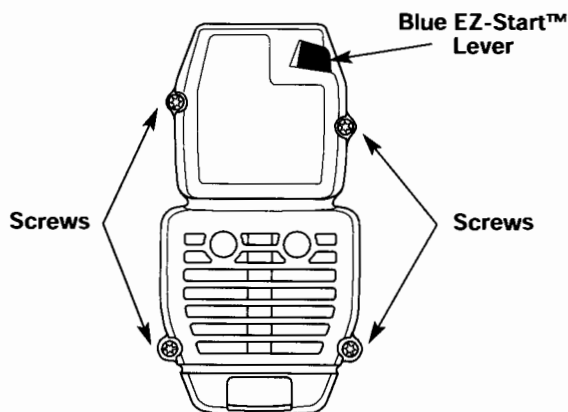

Fig. 25
1. Remove the four (4) screws securing the air filter/muffler cover (Fig. 25). Use a flat blade or T20 Torx bit screwdriver.
2. Insert the four (4) screws into the holes in the air filter/muffler cover (Fig. 25) and tighten. **Do not over tighten.**